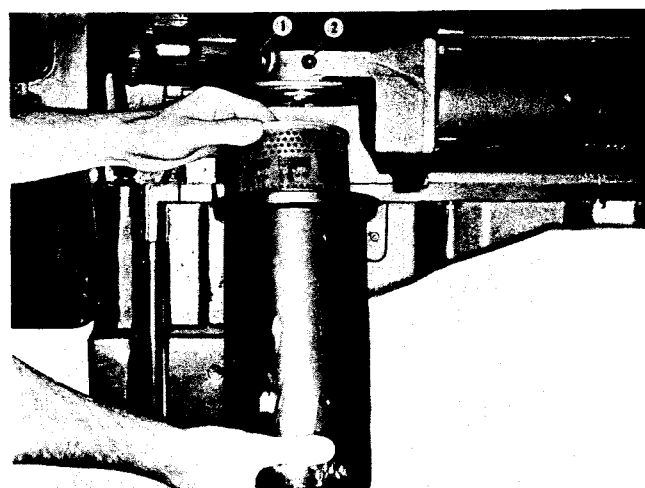

Fig. 2-6, (V51908). Removing full flow lubricating oil filter element - V-903
d. If element is clogged, the change period should be shortened. Oil pressure drop reading across filter is the best way to determine change periods. Pressure drop from inlet (1, Fig. 2-6) to outlet side (2) of filter should not exceed 10 psi [0.70 kg/sq cm] with 140 deg. F [60 deg. C] oil and engine at high-idle speed.